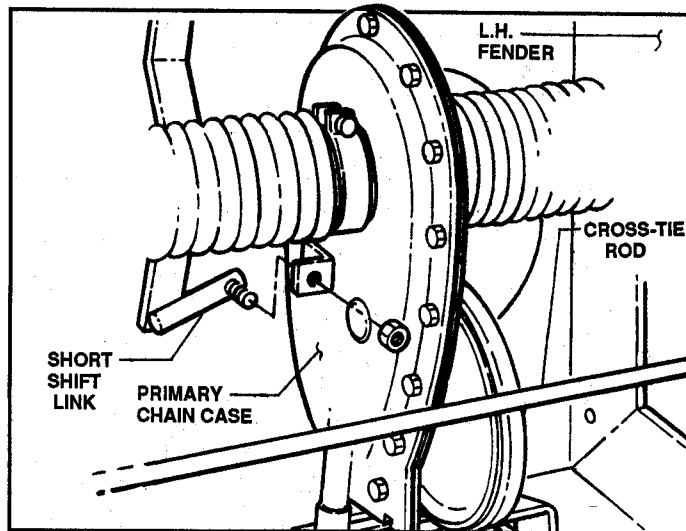

FIGURE 4.31
3. Disconnect the short shift link (and auxiliary brake band, if applicable) from primary chain case. See Figure 4.31.